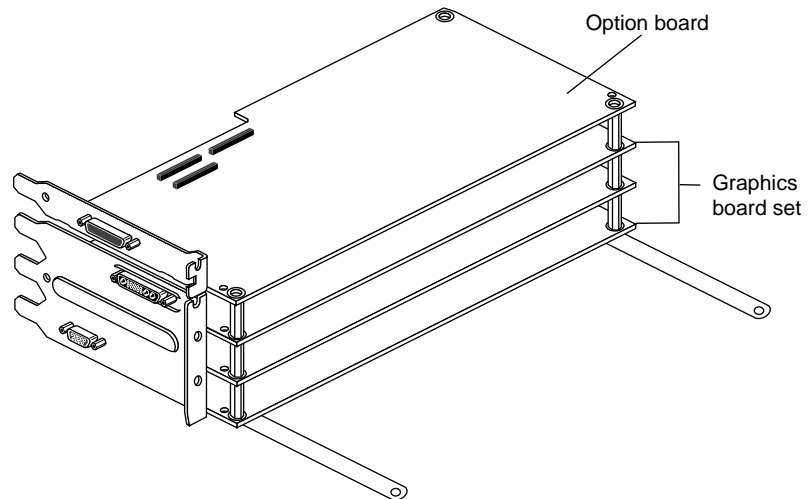

Figure 5-20 Disconnecting the Pull Straps
- Disconnect the pull straps from the top of the board by peeling the adhesive-backed strap from the board. See Figure 5-20.